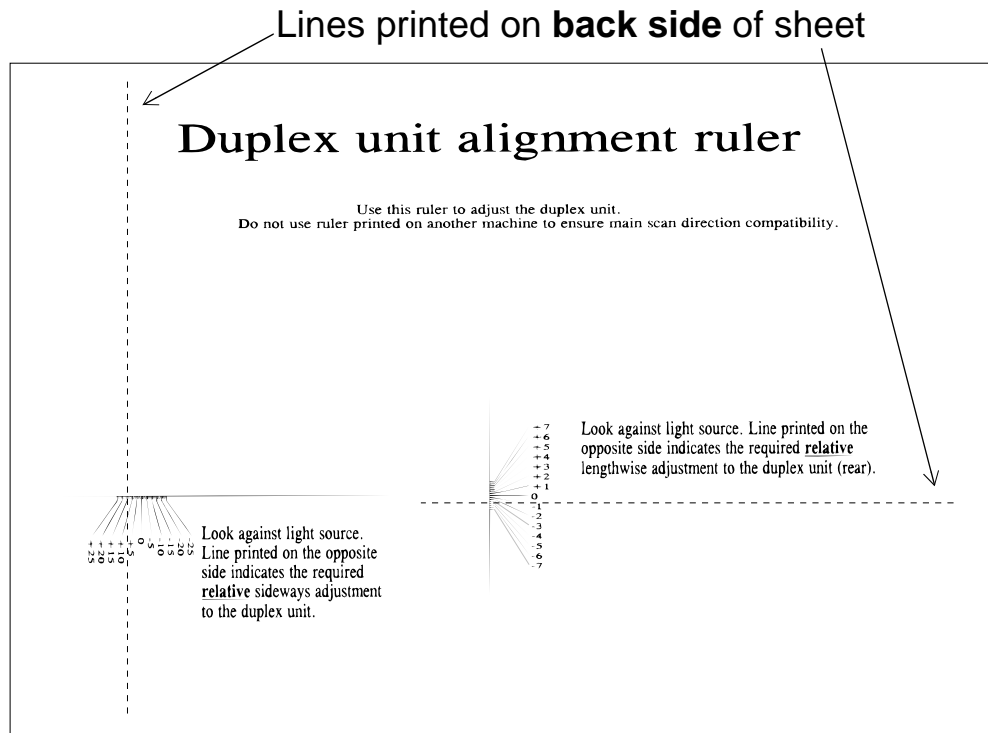

Figure 6-12 Duplex Unit Alignment Ruler Sheet
- a *Duplex unit alignment ruler* sheet, which measures the duplex sideways and lengthwise alignment values (duplexv means "duplex vertical") See Figure 6-12.
Figure 6-12 illustrates the *Duplex unit alignment ruler sheet*, which provides a way to measure the alignment between the printed image on the front and back sides of a double-sided page.